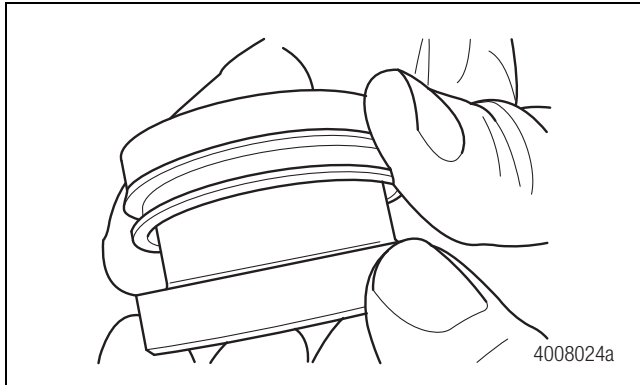

Figure 5.38
1. Place the retainer onto a suitable driver from Meritor tool MST 1000. Figure 5.38.